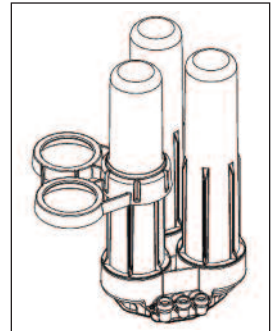

Figure 13
5. Remove the support leg from the three sumps and unscrew the top sump as shown to access the prefilter element. The support leg functions as a wrench to loosen the sump, Figure 13.
- k. Securely insert O-ring end of elements into manifold. See Figure 13.